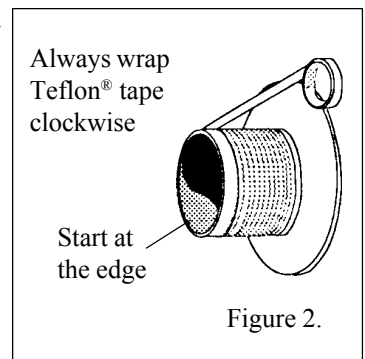

Figure 2.
3. Use the Teflon® tape provided. Snugly wrap the threaded wall flange in a clockwise direction (as viewed from the back) starting at the edge of the threads; see Figure 2. Work towards the flange lip (overlapping 1/2 of the tape width with each wrap) then back towards the starting point.